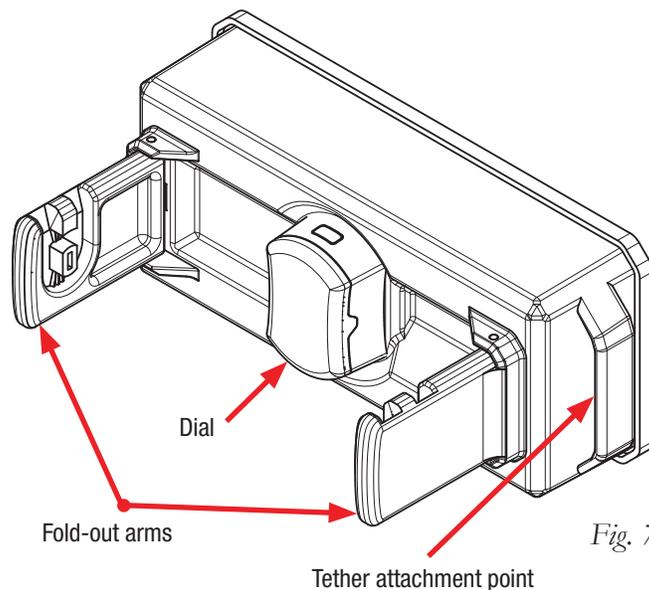

Fig. 7
4. Inspect the bottom of the portable suction cup power pack mount (A) to ensure it is free from debris, dust, or foreign materials that could compromise the suction seal.
5. Before installation, verify that the portable suction cup power pack mount is oriented correctly, with the unit in a horizontal position and the tether attachment point on the right side (Fig. 7).
7. Open each arm of the portable suction cup power pack mount, as shown in Figure 7, then turn the dial clockwise to engage and activate its suction capabilities (Fig. 8). Check the position and orientation of the portable suction cup power pack mount before proceeding.
9. To protect the portable suction cup power pack system from damage, utilize your own tether device on the tether attachment point located on the side of the portable suction cup power pack mount (Fig. 7). Connect the opposite end of the tether to a firm attachment point on the vehicle.